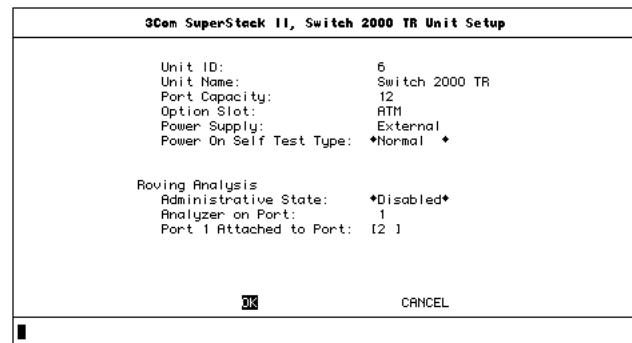

Figure 4-11 TR Unit Setup Screen
- 5 Select SETUP. The TR Unit Setup screen appears. See Figure 4-11.